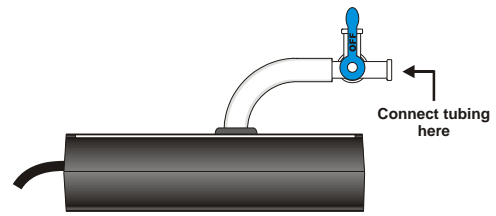

Figure 2
1. Connect the plastic tubing to the valve on the Gas Pressure Sensor. If your sensor has a blue plastic valve on it, place the valve in the position shown in Figure 2.